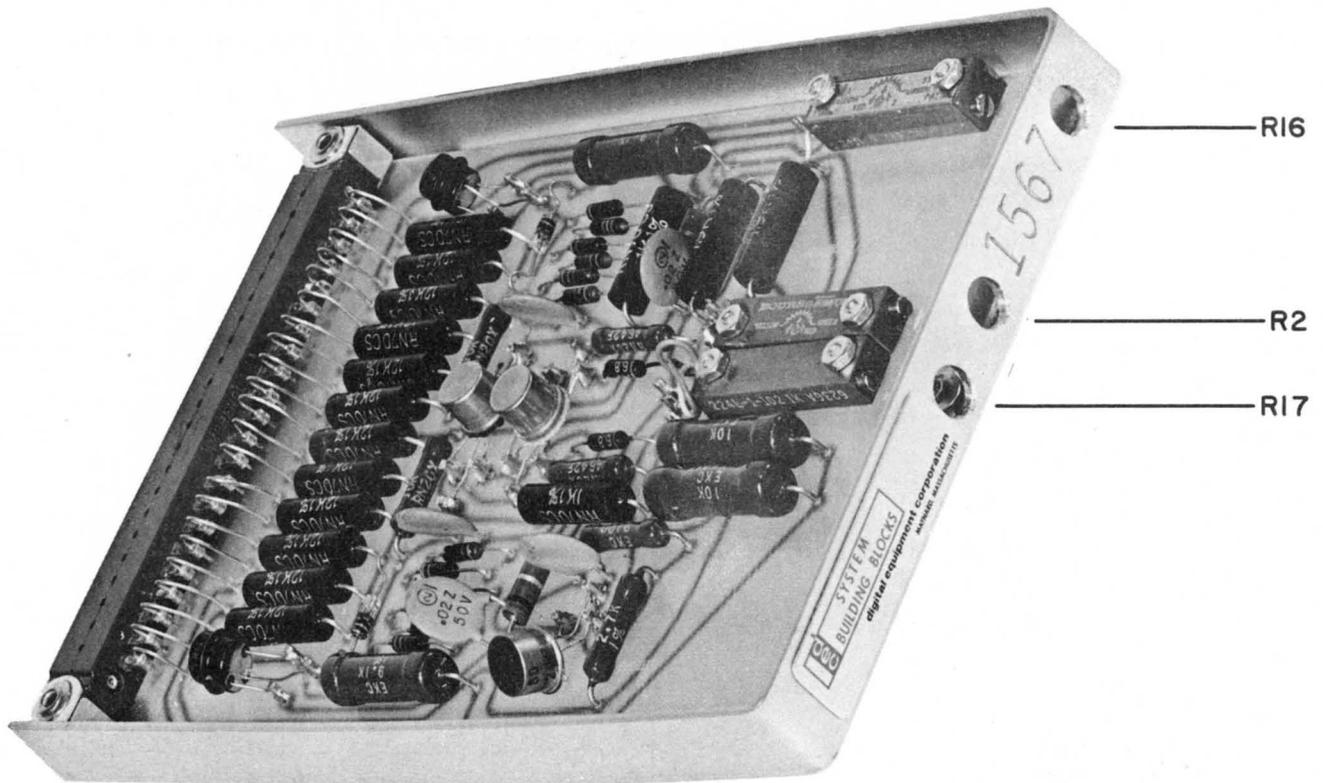

Figure 4-2 Type 1567 Adjustment Locations
- (b) Adjust potentiometer R2 (center hole, Figure 4-2, in the Type 1567 module located in B17) to center the vertical lines.
- (b) Adjust potentiometer R16 (lower hole, Figure 4-2) in the Type 1567 module located in B17 for nine and three-eighths inches between the midpoints of the two horizontal lines.
(c) If the voltage range is greater than this, adjust potentiometer R17 (upper hole, Figure 4-2) so that the lower voltage is 0.5 volts minimum.